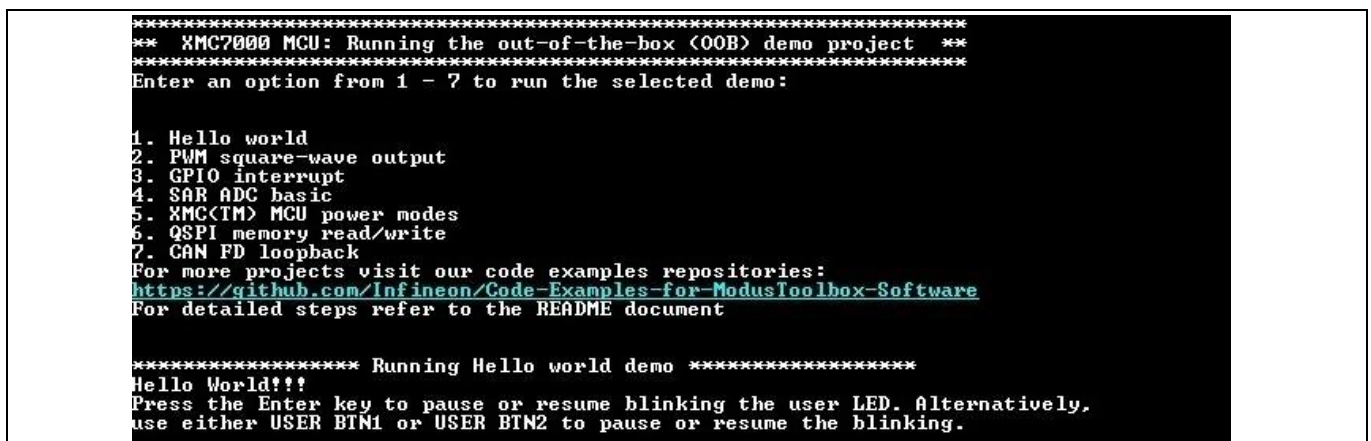

Figure 14 OOB demo project message in the terminal
- Press the reset button (SW1) on the board and confirm that terminal application displays the code example title and other text as shown in Figure 14.
7. Select the options from 1 to 7 as shown in Figure 14 to run the selected demos.